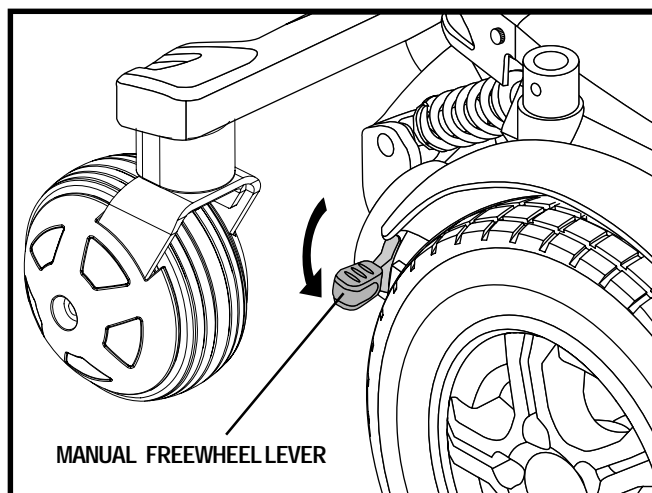

Figure 8. Freewheel Mode (Drive Disengaged)
1. Push down both manual freewheel levers for freewheel mode (drive motor disengaged). See figure 8.